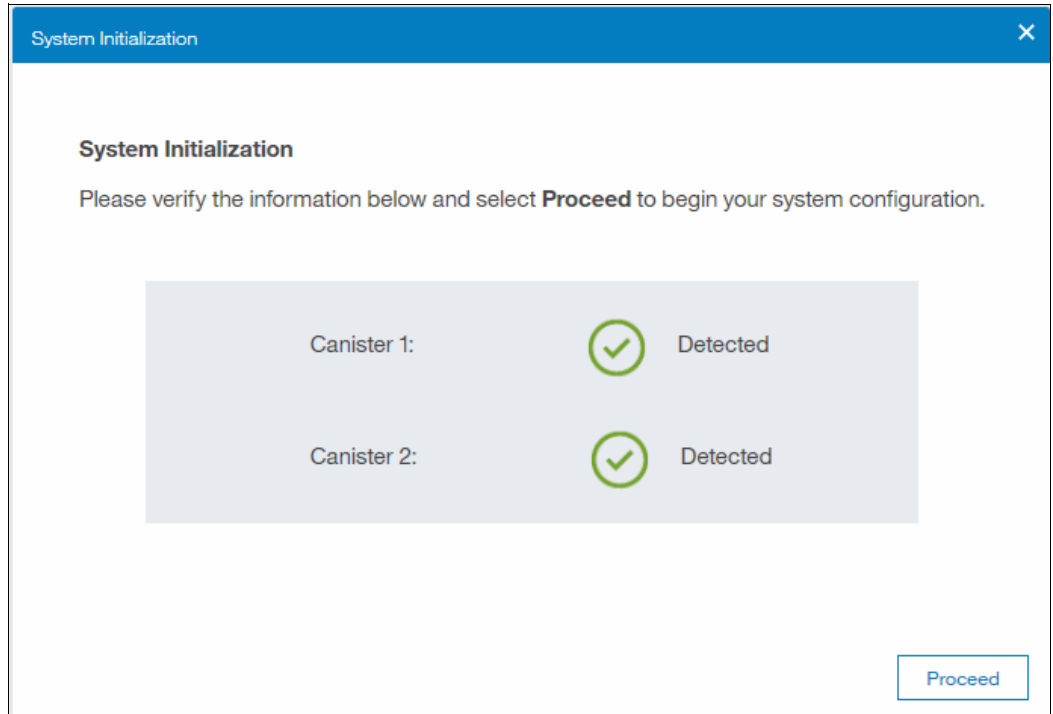

Figure 6-56 System initialization pane
3. Wait for the System Initialization pane to be displayed (Figure 6-56).